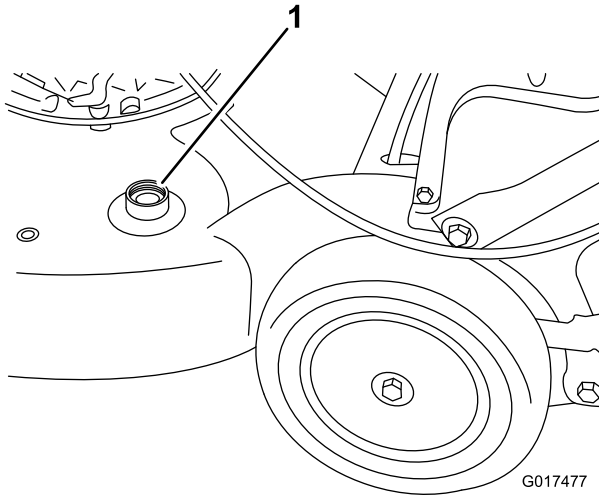

Figure 37
- Attach a garden hose that is connected to a water supply to the washout port on the machine housing (Figure 37).